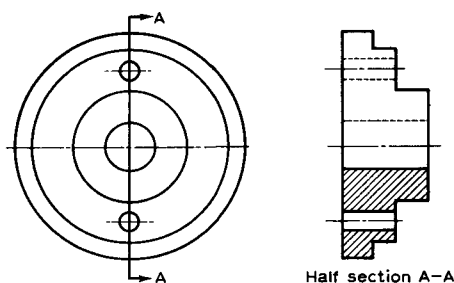

Fig. 3.42
*Half sections* are used when the object is symmetrical about a centre-line. Both the internal and external details can then be shown in one view (see Fig. 3.42).